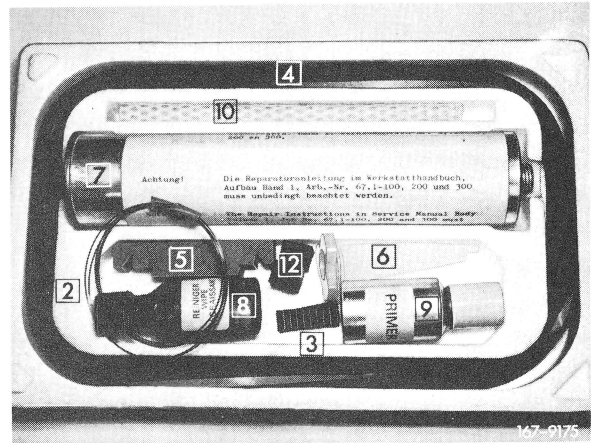

Fig. 8
For removal and installation of glued glass (panes), order **Repair Kit** for glueing (bonding) **107 586 00 67** from Spare Parts Department Sindelfingen (Fig. 8).
13 Coat channel with cleaner (8) from repair kit (Fig. 8)